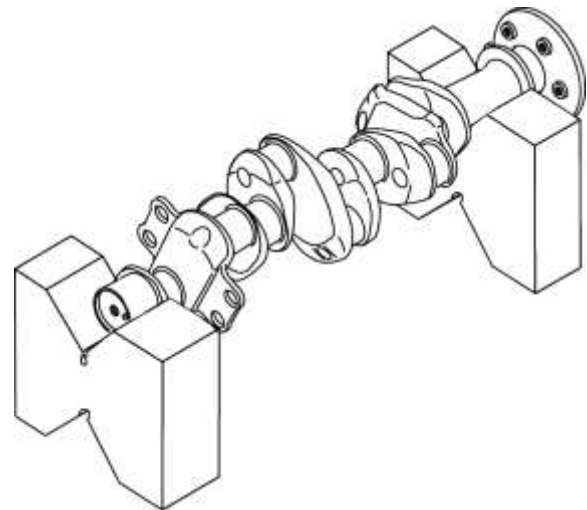

Figure 10
- N. Put the crankshaft in a suitable V-block-type fixture as shown in Figure 10.